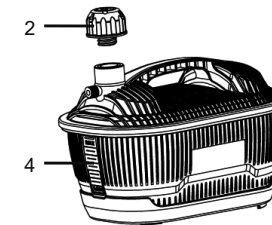

Fig.2
2. Unscrew the safety cap (2). (Fig 2)
5. Fill the water tank to the MAX level (4) for the longest steaming time. For a shorter steaming time use less water, but do not fill to less than the MIN level.